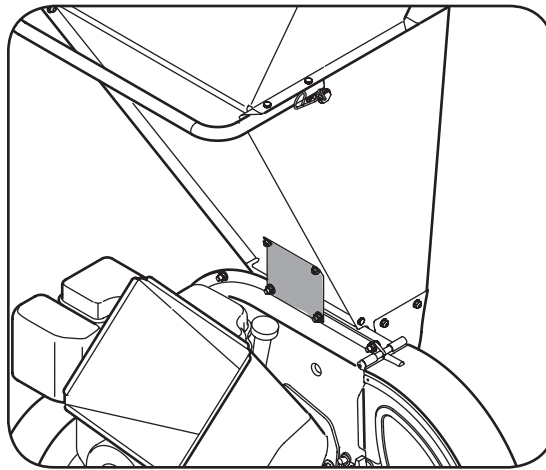

Figure 5-3
2. Remove the two flange nuts (and hex bolts) which secure the hopper support bracket to the impeller housing. Retain the hardware. See Figure 5-3.